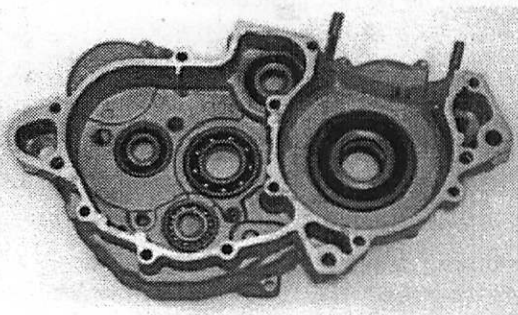
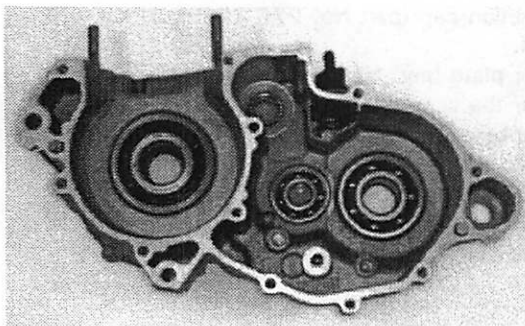

Figure 36
Figure 37
2. Inspect the crankcase halves for any type of damage. If necessary, repair or replace the crankcase halves. See Figure 36 and Figure 37.